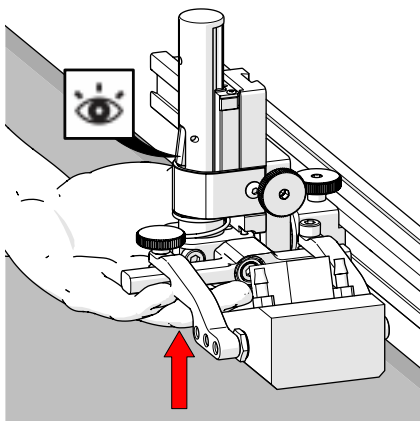
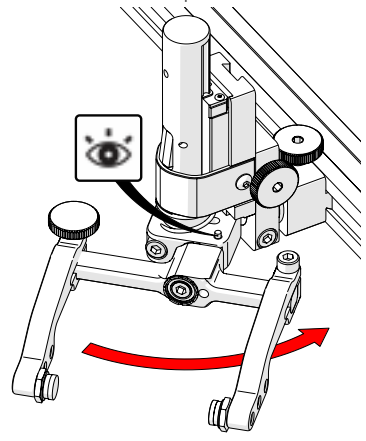

Fig. 109 - Latch probe holder
Fig. 115 - Stop post locates 90°
holder until the latch is fully exposed and snaps out to lock (Fig. 109).
1. Ensure the probe holder is in the latched upper position (Fig. 109).
To return the transverse adjustment to neutral (90°). The probe holder must be in the latched, upper position (*Fig. 109*). Rotate the yoke until the stop post contacts the base of the probe holder (*Fig. 115*). Then tighten the transverse adjustment screw.
1. Ensure the probe holder is in the latched upper position (*Fig. 109*).